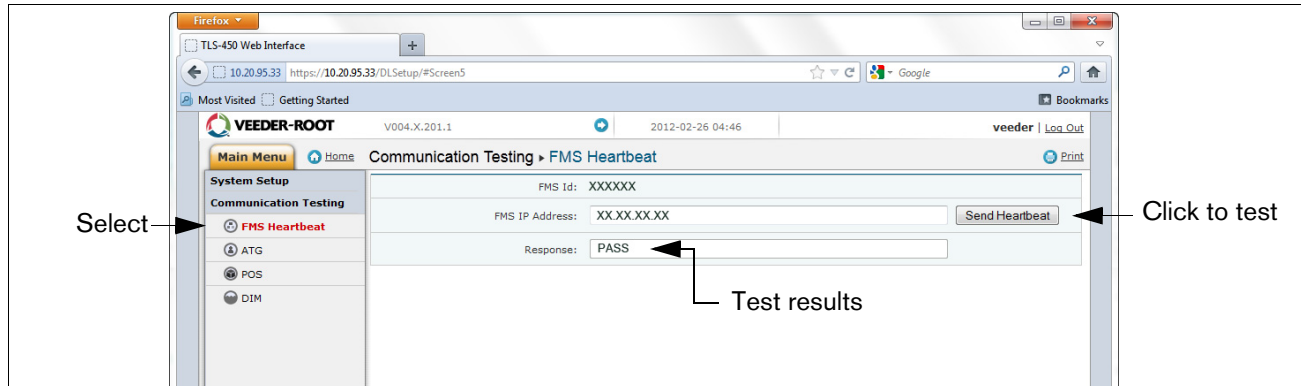

Figure B-18. FMS Heartbeat Screen
19. The Datalogger should now be configured to collect inventory and transactional data, which will be periodically retrieved by FMS. To verify connectivity with FMS, reconnect the Datalogger to the network or cell modem. Go to the “DLSetup” application’s Communication Testing screen, click on “FMS Heartbeat”, then click on the “Send Heartbeat” button (see Figure B-18). Wait for the “Response” text to indicate PASS or